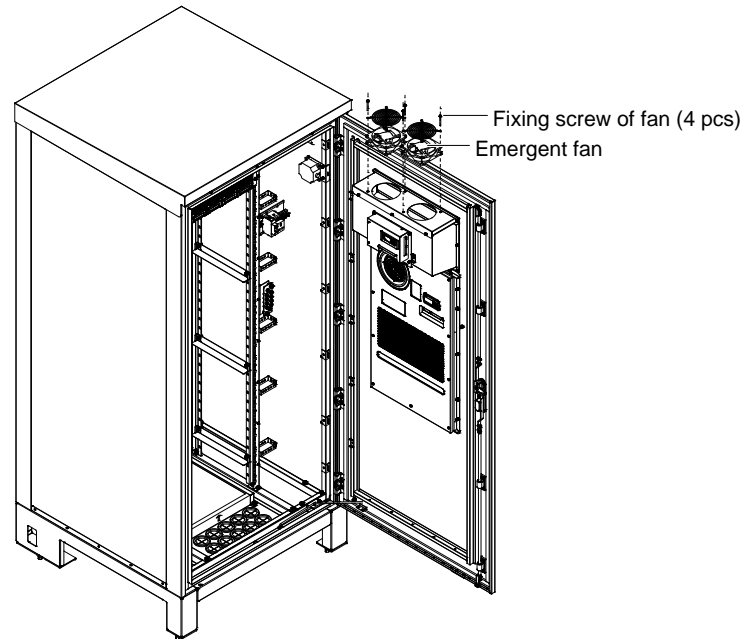

Figure 4-4 Position of emergent fan
1. Turn off the AC output MCB of power subrack, and the position is shown in Figure 4-4.
2. Unplug the fan terminal and loosen the fixing screws of the fan, as shown in Figure 4-4.